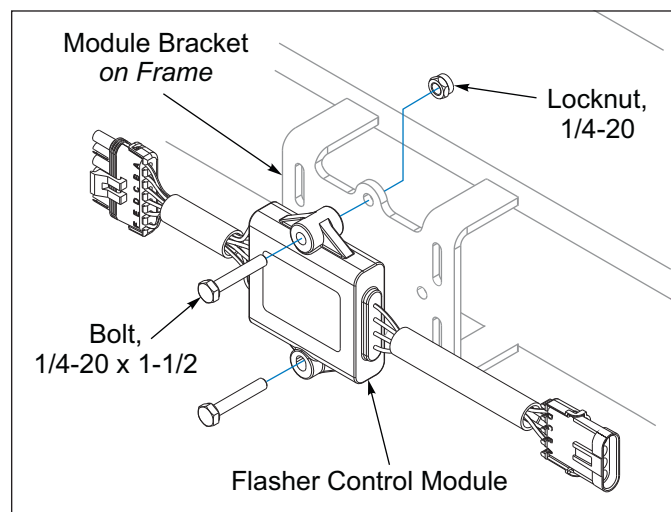

Figure 2-64: Flasher Control Module and Bracket (After 08/2025)
2. Attach the Flasher Control Module to the Module Bracket with 1/4-20 x 1-1/2 Bolts and Locknuts. See Figure 2-64.